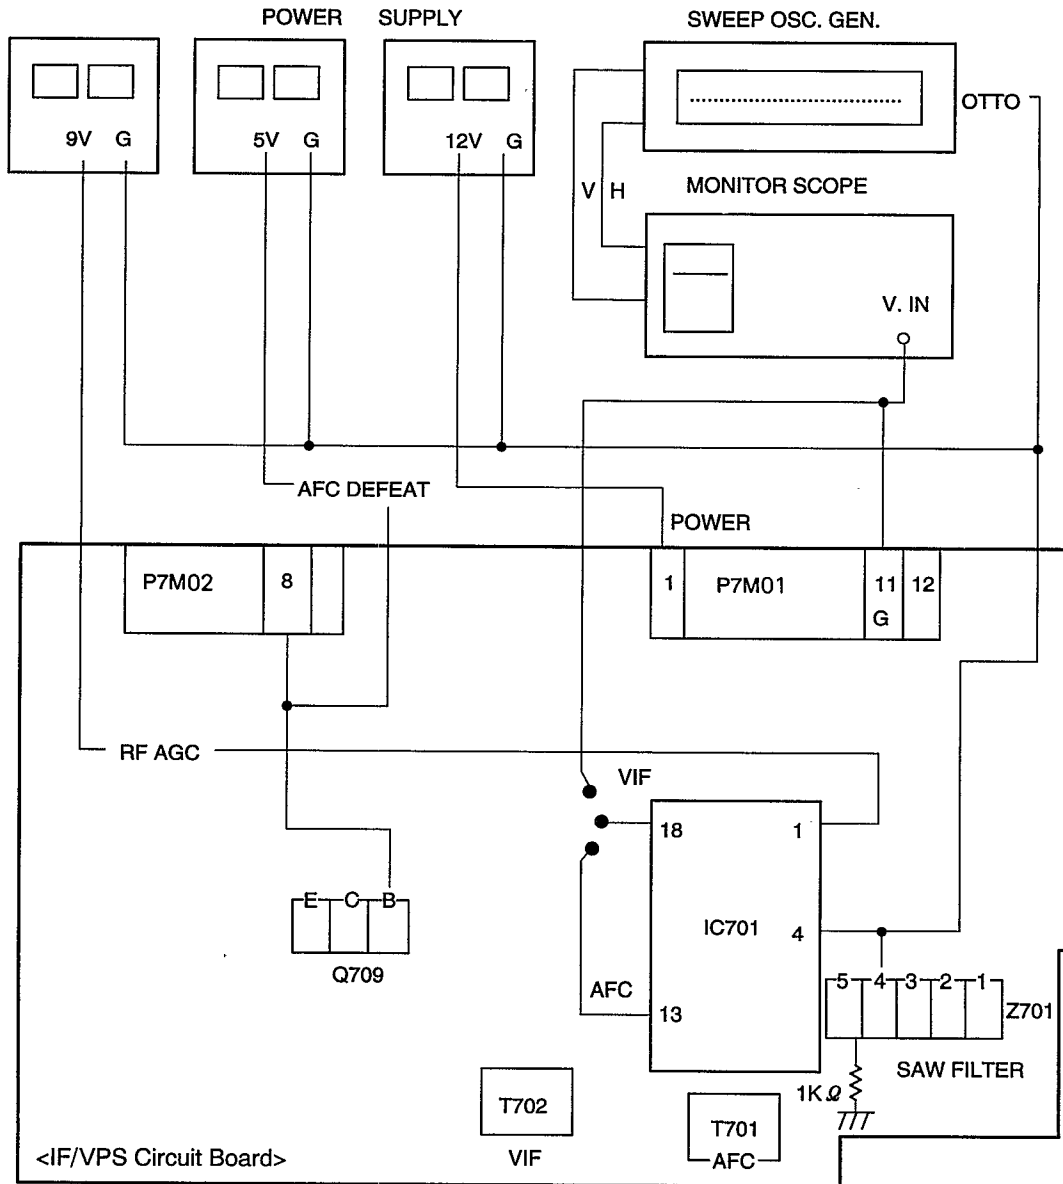

Fig. 3-8
- Connect as shown in Fig. 3-8.